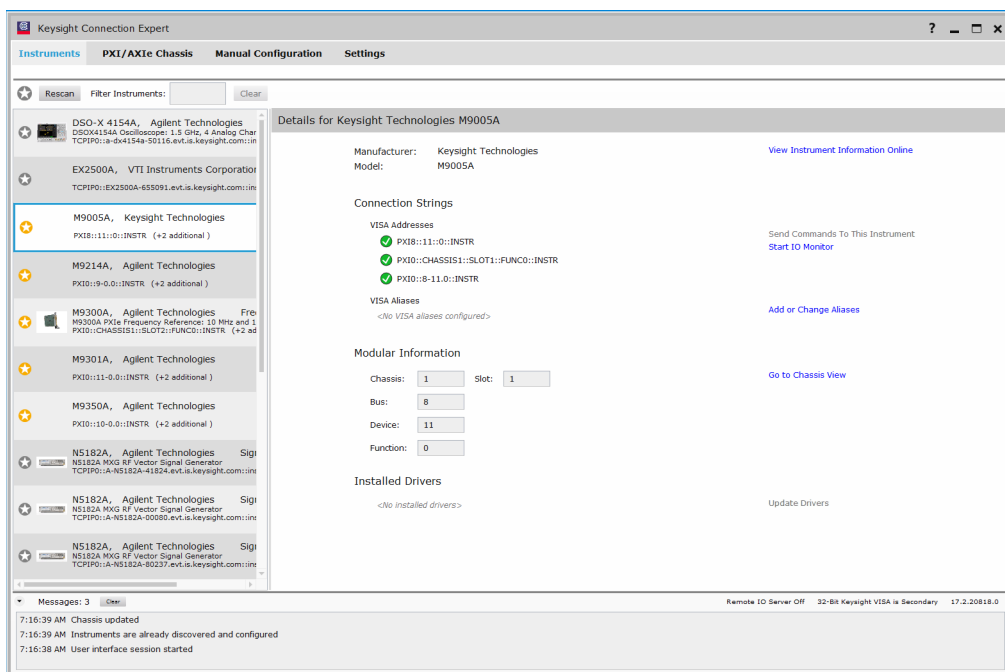

Figure 13 Instruments View in Keysight Connection Expert
- 7 Instrument Discovery Service will auto-discover many instruments that are physically connected to your PC or are on your local LAN subnet. Auto-discovered instruments are shown in the **Instruments** view automatically; either when discovered or when you click **Rescan**. Figure 13 shows the **Instruments** view.